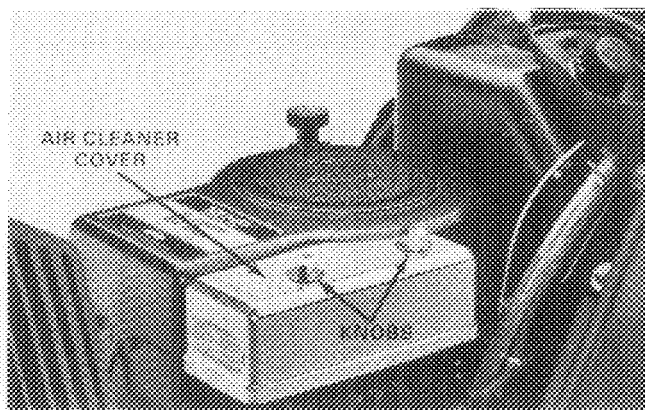

Figure 15
2. Remove air cleaner knobs and cover (Fig. 15).